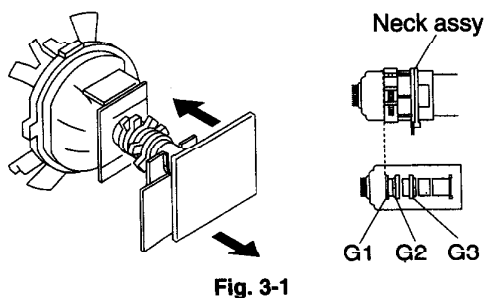

Fig. 3-1
2. Position neck ass'y as shown in Figure 3-1.
(See Figures 3-1 through 3-3.)
5. Move the deflection yoke forward and adjust so that entire screen is green. (See Figure 3-1.)